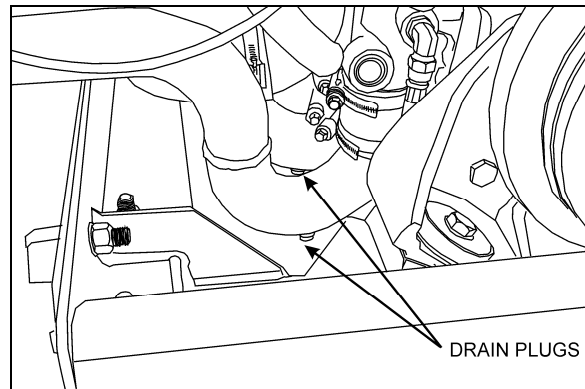

FIGURE 18: WATER PUMP DRAIN PLUG
5. Unscrew the water pump housing inlet line drain plug (Fig. 18) plus the transmission oil cooler delivery line drain plug. Drain the coolant into an approved container.